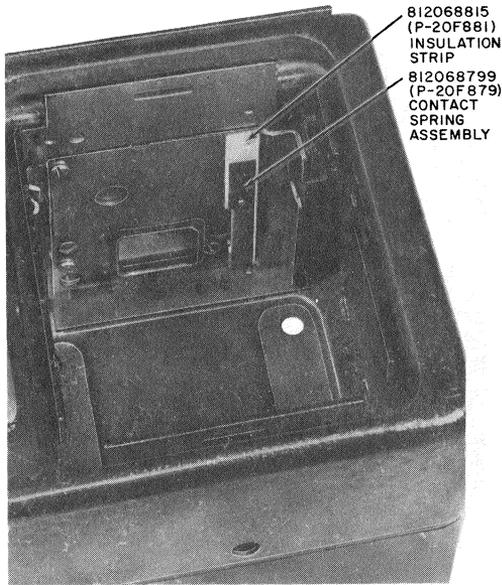

Fig. 7—Installation of Insulation Strip and Contact Spring Assembly
(8) Position the insulation strip against the 1B rail with the boss on the strip in the 1/4-inch mounting screw hole (Fig. 7). Hold the contact springs in place with the stud extending through